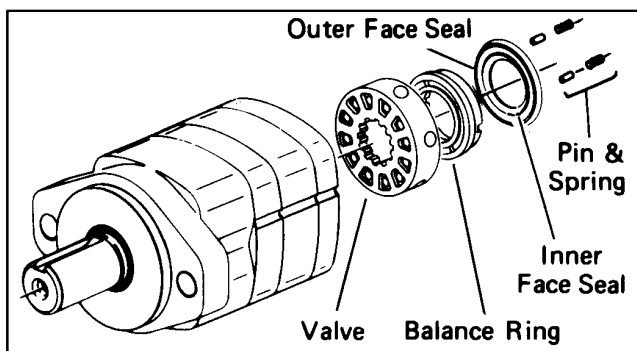

Figure 73
6. Remove 2 pins and 2 springs from balance ring assembly, see Fig. 73.